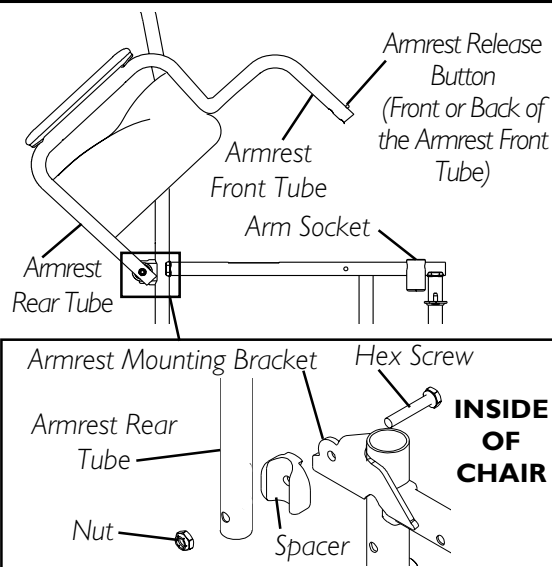

FIGURE 1 - USING OR REPLACING FLIP-BACK ARMREST
USING OR REPLACING FLIP-BACK ARMREST (FIGURE 1)
6. Insert the hex screw through the armrest mounting bracket, spacer and armrest rear tube with insert, as shown in FIGURE 1.